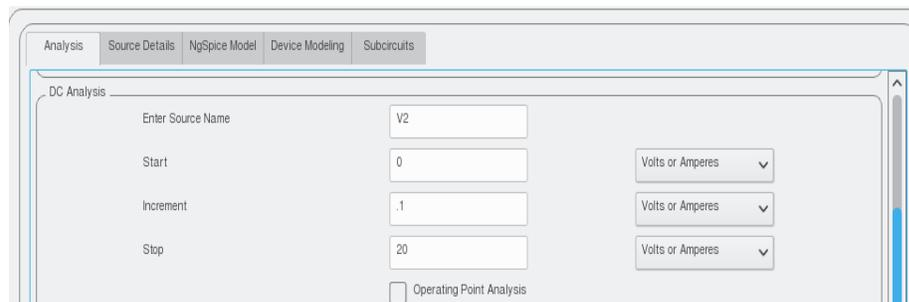

Figure 9.5: Choose DC analysis type and enter the values of V2
- **Drain Characteristics:** Give the values of DC variables as shown in Figure 9.5. Enter the name of your DC source **V2** and let its value be varied from 0V to 20V with a step of 0.1 V.